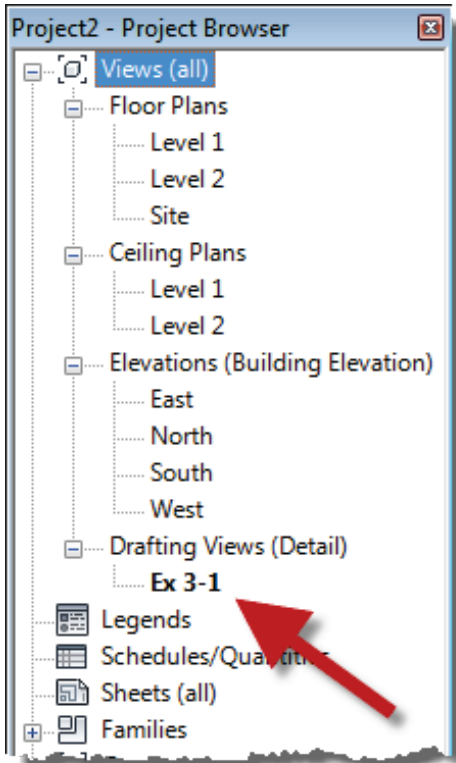

FIGURE 3-1.4 Project Browser: Drafting Views
5. In the *Project Browser*, click the plus symbol next to the label **Drafting Views (Detail)**; this will display the *Drafting Views* that exist in the current project (Figure 3-1.4).